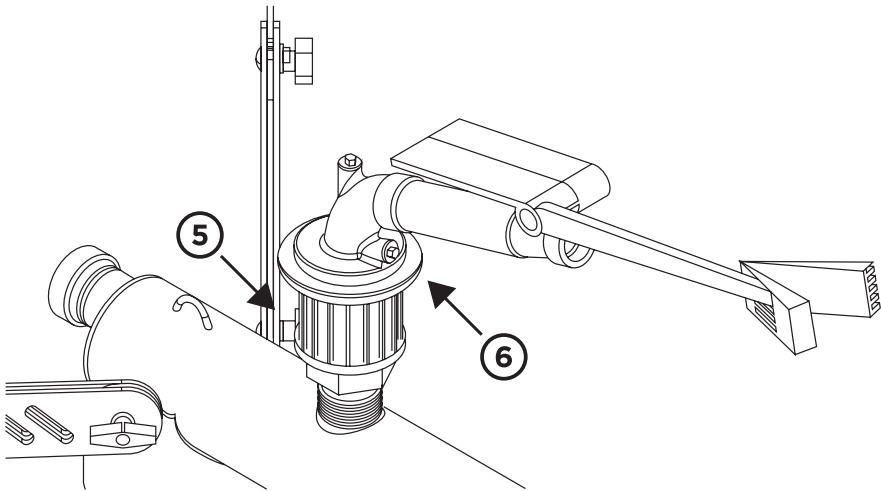

Figure 4.
- Position the stays (5) on the back of the sprinkler head (6) to control the arc of travel of the sprinkler head (6), *Figure 4*.